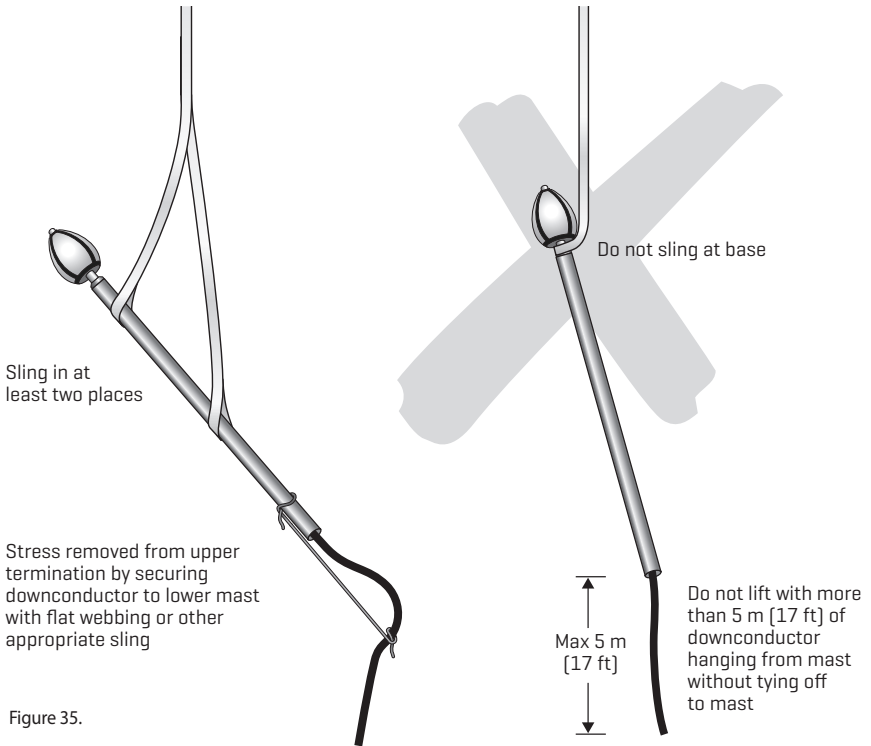

Figure 35.
- The Guardian Plus terminal must NOT be used as a slinging point. See Figure 35.
- When lifting the mast, ensure that the slings or ropes cannot damage the Guardian Plus terminal. See Figure 35.